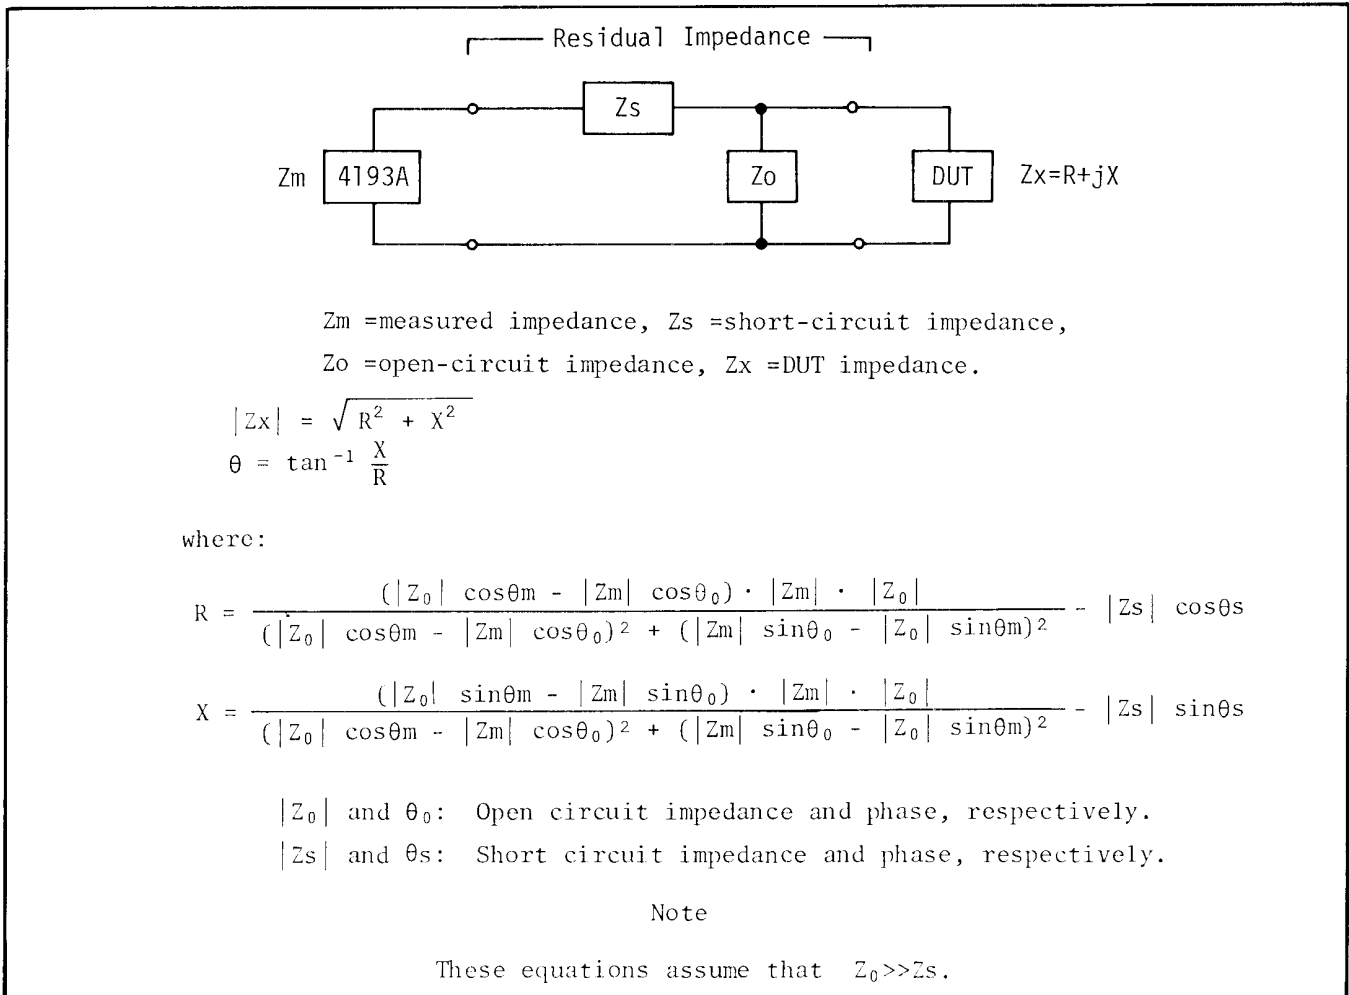

Figure 3-9. Residuals Compensation.
- (1). Connect nothing to the test fixture (or probe) and note the value displayed as Z_o .
- (2) Short the test fixture (or probe) and note the value displayed as Z_s .
- (3) Calculate the DUT's actual impedance using the equation given in Figure 3-9.